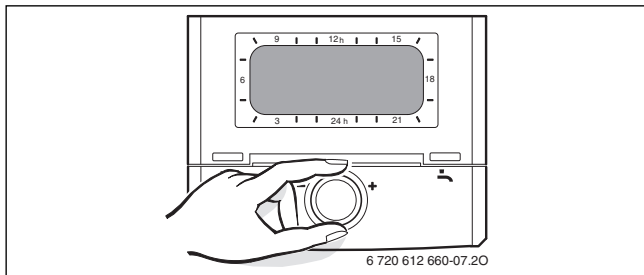

Fig. 6
- Outdoor reset control unit (→ page 16, Fig. 6) installed in the boiler (→ page 12, [19])